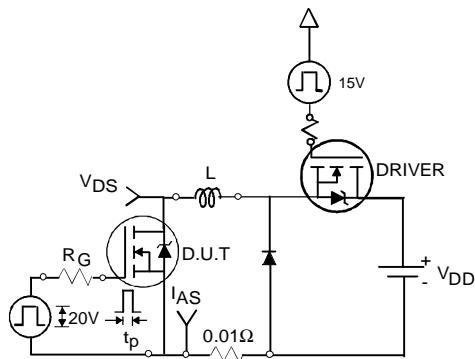

Fig 12a. Unclamped Inductive Test Circuit
- ③ $I_{SD} \leq 78\text{A}$, $di/dt \leq 320\text{A}/\mu\text{s}$, $V_{\text{DD}} \leq V_{(\text{BR})\text{DSS}}$, $T_J \leq 175^\circ\text{C}$
- ④ Pulse width $\leq 400\mu\text{s}$; duty cycle $\leq 2\%$.
- ⑤ $C_{\text{oss eff.}}$ is a fixed capacitance that gives the same charging time as C_{oss} while V_{DS} is rising from 0 to 80% V_{DSS} .
- ⑥ Calculated continuous current based on maximum allowable junction temperature. Package limitation current is 75A.
- ⑦ Limited by $T_{J\text{max}}$, see Fig.12a, 12b, 15, 16 for typical repetitive avalanche performance.
3. Equation below based on circuit and waveforms shown in Figures 12a, 12b.